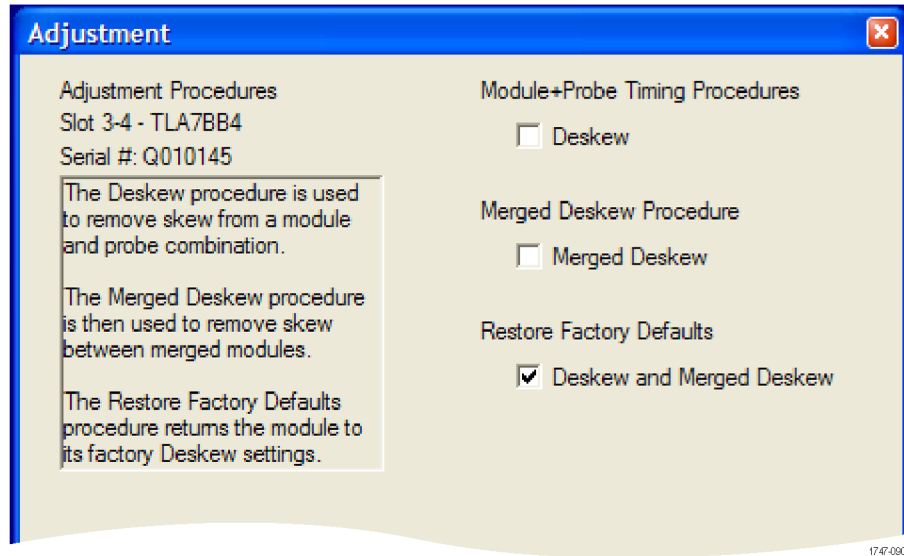

Figure 52: Adjustment procedure dialog box with Deskew and Merged Deskew selected
1. In the Adjustment procedure dialog box, select Deskew and Merged Deskew. (See Figure 52.)